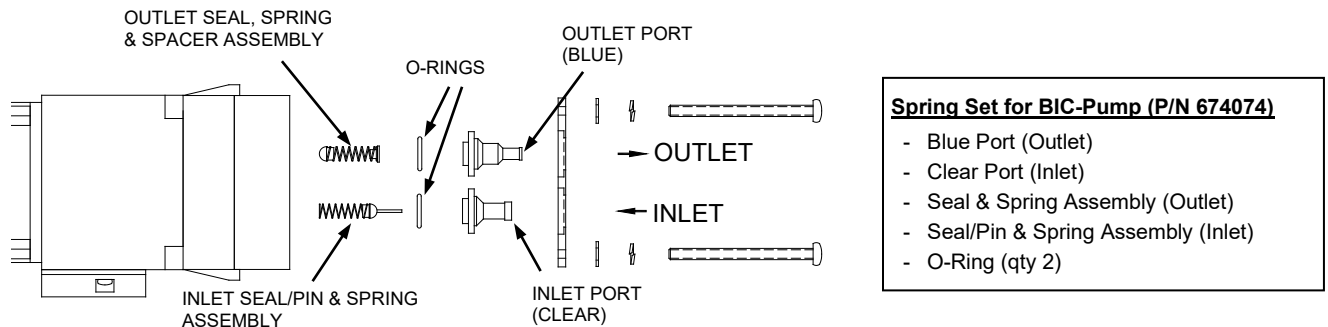

Figure 18 - Bicarbonate Pump Exploded View
61. Rebuild the bicarbonate pump assembly using parts in the Spring Set for BIC-Pump (P/N 674074) included in the kit. Refer to Figure 18 for the correct parts for the bicarbonate pump.